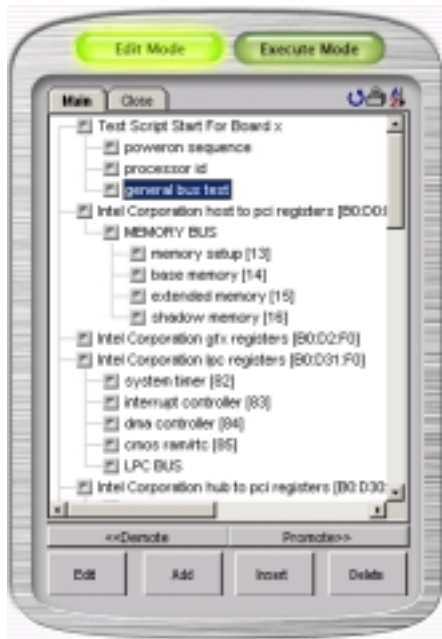

Fig. 4 – μMaster’s Test Script window.
10. After some seconds, the ATG will have created a test script, and this will be displayed in the Test Script window (fig. 4).
- a. Select a test in the Test Script window (fig. 4), above or below which the new test should be added.